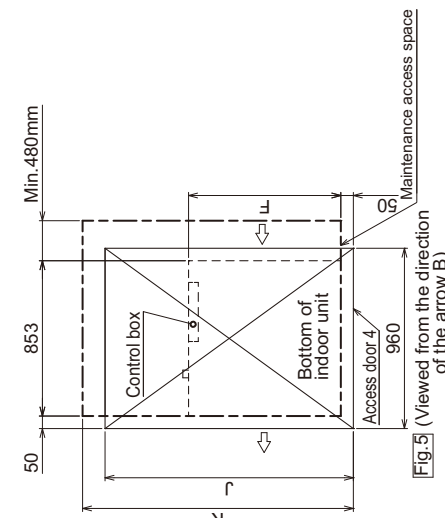

Fig.5 (Viewed from the direction of the arrow B)
• Create access door 4 below the control box and the unit as shown in Fig.5.
- Create access door 4 below the control box and the unit as shown in Fig.5.